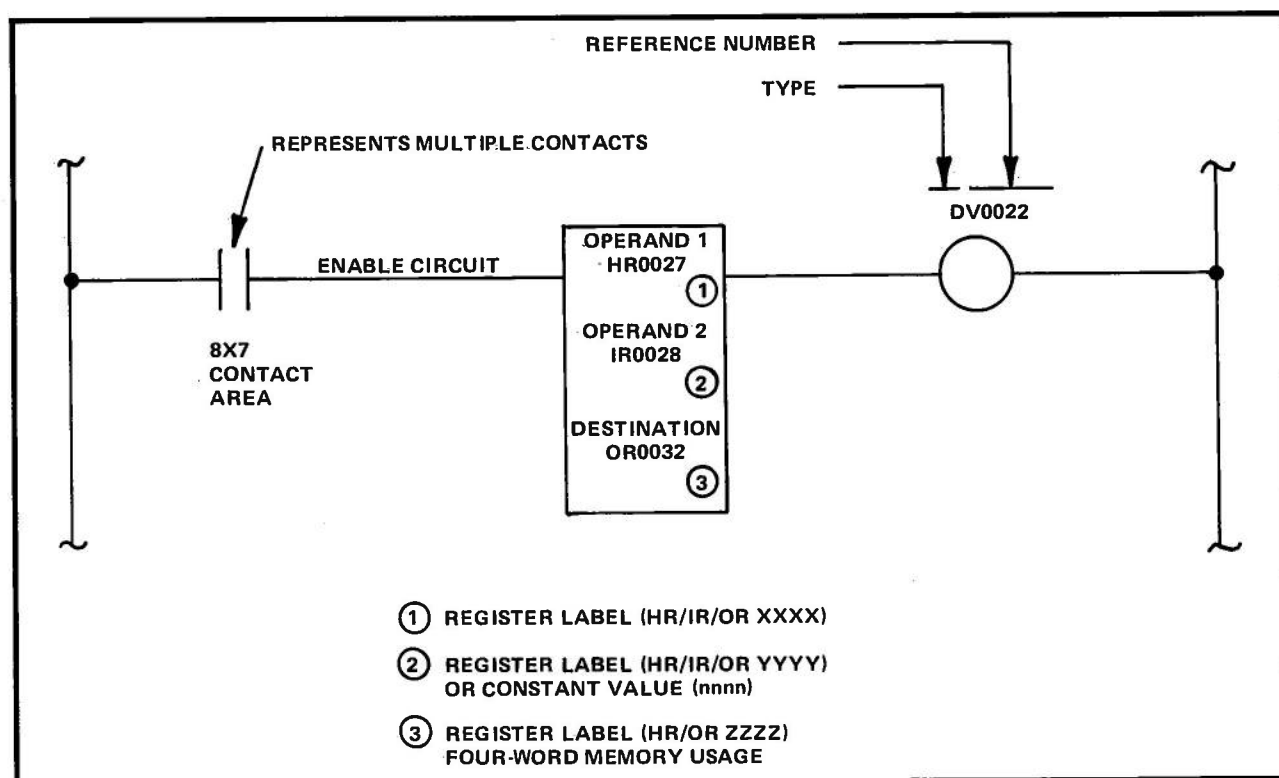

Figure 1. Division (DV)
The Divide (DV) function divides an eight-digit decimal number (up to 99,999,999) by a four-digit decimal number (up to 9999), resulting in a number of up to four digits. DV function symbology is shown in Figure 1.